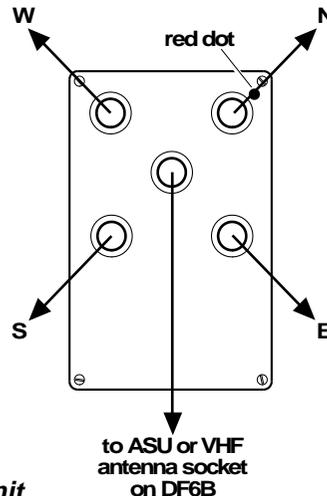

Figure C.1
C.2 Housing and Connectors (Figure C.1)